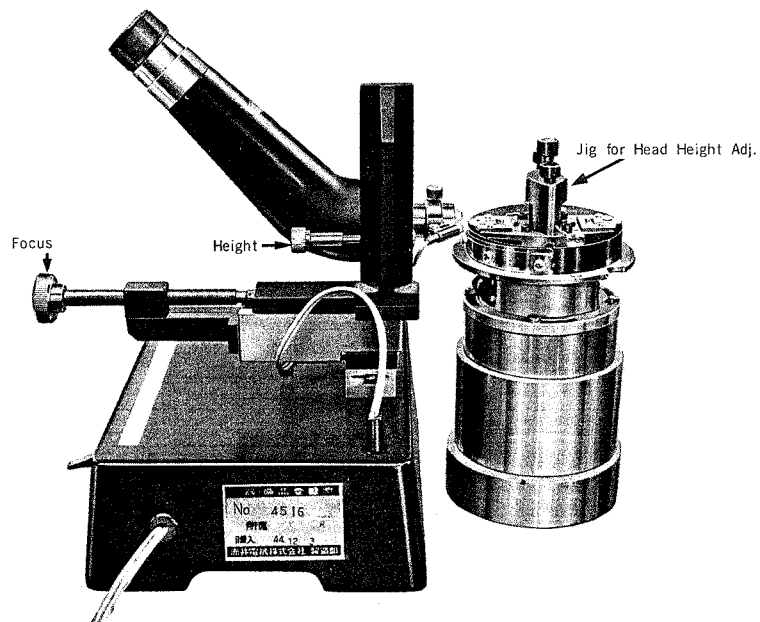

Fig. 1-16
(4) Video Head Height (ref. fig. 1-16)